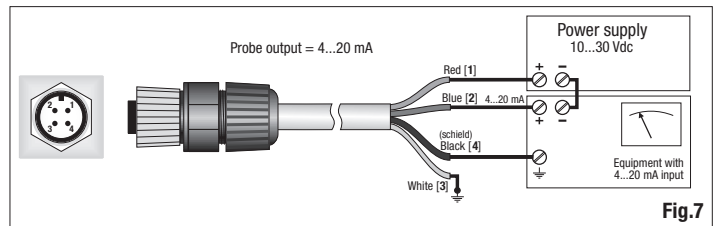

Fig.7
- LP PYRA 10 AC, LP PYRA 13 AC have to be connected to a power supply and a multimeter as shown below (Figure 7), resistance load for reading the signal must be ≤ 500 Ω: